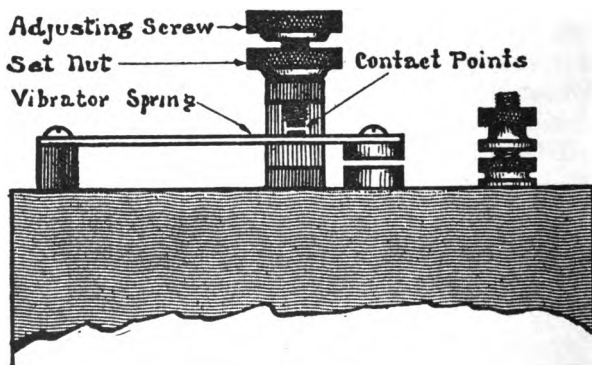

Fig. 25.—A Conventional Sketch of Single Jump Spark Coil
The first thing the novice should do before attempting to drive an automobile is to familiarize himself with the different parts of the car he is to drive. Before starting the engine see that the gasoline tank is full; also see that the radiator has water in it and the oil tank is full. See that the batteries are in good condition, and charged to proper point of efficiency. Assuming now you are ready to start the engine, first see that the gear shifting lever is in a neutral, or idle, position (see Fig. 19), and the hand brake is set. On most cars this lever will also throw the clutch out, so that there is no connection between the engine and driving mechanism. Insert switch plug, in center of coil box (which is generally on the dash), and throw the switch on the battery side, which brings the battery into action. See Fig. 25.
(4) Lessen the tension on the vibrator by means of the adjusting screw (see Fig. 25) until the contacts are separated and the vibrator ceases to move; then increase the tension just enough to cause the vibrator to be set in motion again. Secure the adjusting screw.
(5) Proceeding in like manner, adjust the tension of the vibrator of each of the other spark coils to the minimum consumption of battery energy.
(6) Crank the engine. If engine refuses to run, or if it runs in an irregular manner, increase the tension on each vibrator by giving the adjusting screw a very slight turn downward.